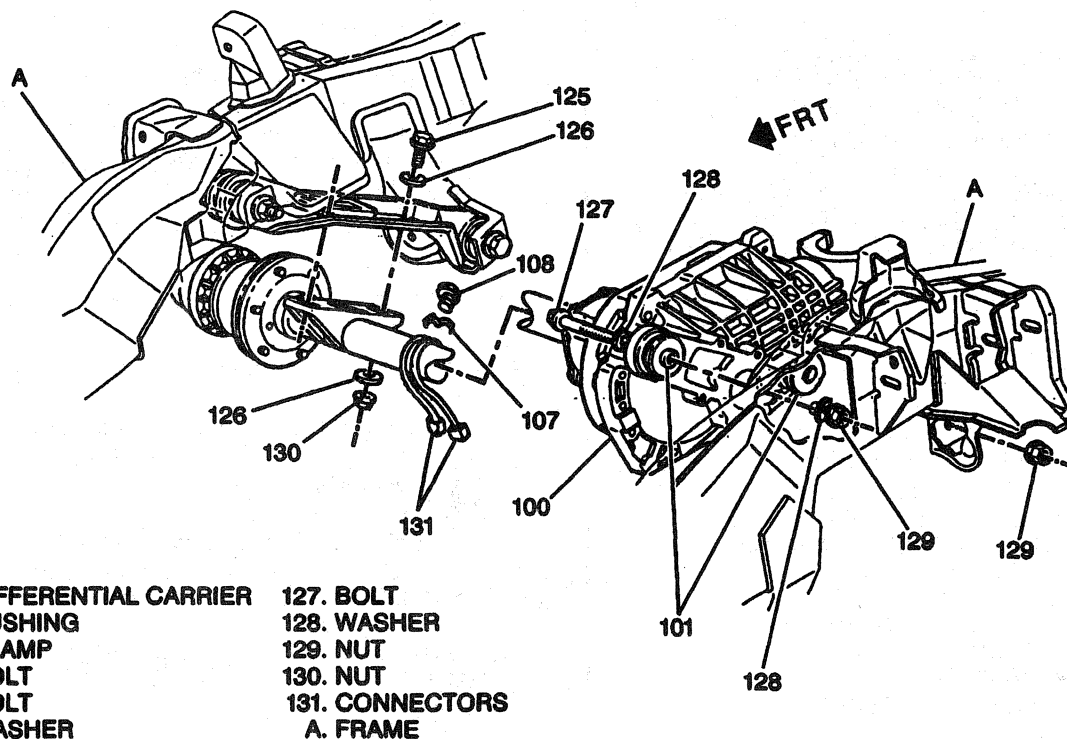

Figure 13—Differential Carrier Mounting
- 3. Electrical connectors (131) (Figure 13).
- 4. Axle shaft (output shaft) nuts (130) and washers (126) (Figure 13).
- 3. Axle shaft (output shaft) tube washers (126) and nuts (130) to frame (Figure 13).
- Nuts (130).
- 5. Electrical connectors (131) (Figure 13).